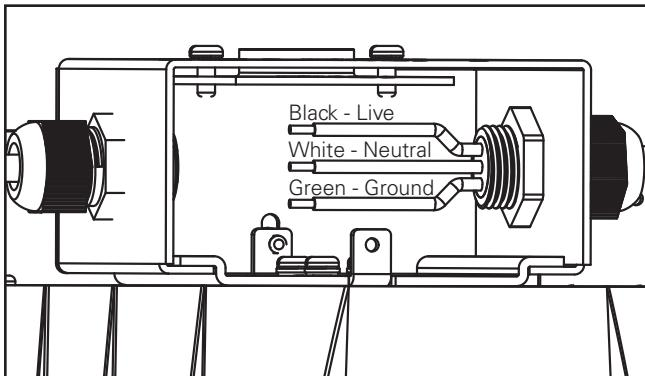

Figure 6.
11. Wire according to NEC code. (Figure 6)